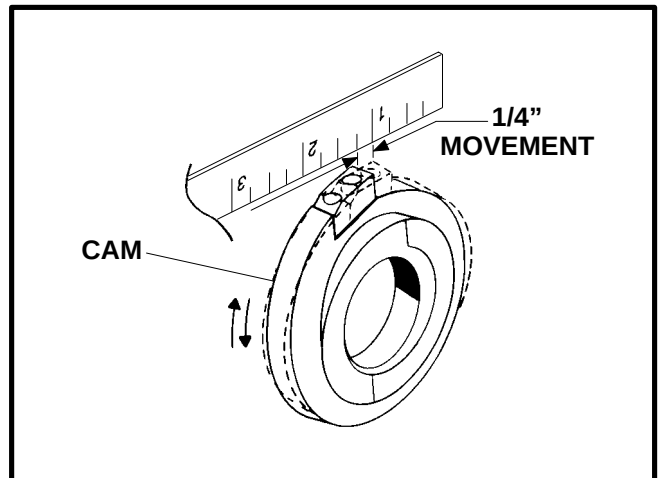

FIGURE 20
3. Lift the trigger so it does not interfere with the rocking movement of the cam. Adjust the nut enough to allow the cam to be rocked back and forth approximately 1/4" (6.4 mm). Using a tape measure (or ruler) verify the 1/4" movement illustrated in Figure 20. Be sure trigger does not interfere with cam stop.